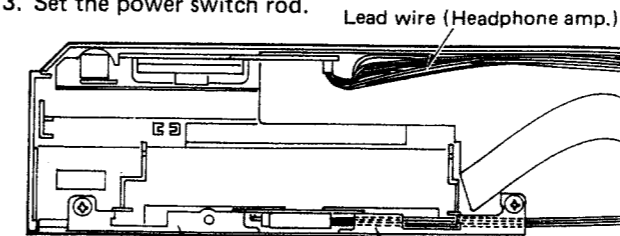

Fig. 9
- ★ The disc illumination lead wire should come under the reinforcement plate. (See Fig. 9)